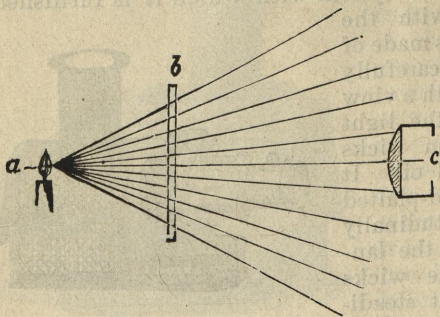
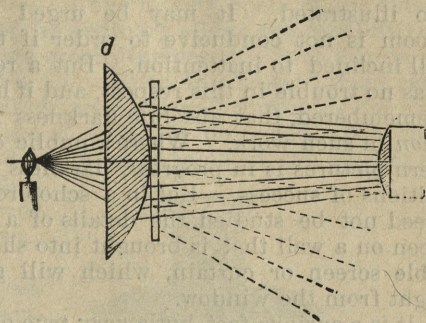

Fig. 6.
Fig. 7.
optical arrangement of the magic lantern is clearly shown by the diagrams Fig. 6 and Fig. 7. In the first one A is the luminant and B the lantern picture, the projecting lens being indicated at C. Now it will be noticed that the
In Fig. 7 we have the same general arrangement of parts, only with the condensing lens (D) inserted; and it will be at once seen what a very important change in the conditions under which the picture is shown has been thus effected. We now see the meaning of the term "condenser," for the rays which were formerly spread out and wasted—their direction is here indicated by the dotted lines—are now *condensed* and bent forward in such a manner that the whole bundle of them is driven through the objective lens.